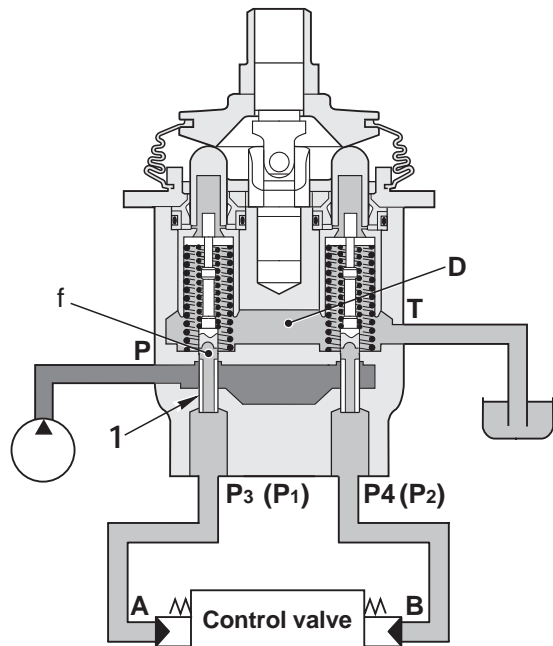

FIG. 1
Ports **A** and **B** of the control valve and ports **P1** and **P2** of the PPC valve are connected to drain chamber **D** through fine control hole **f** in spool (1). (Fig. 1)